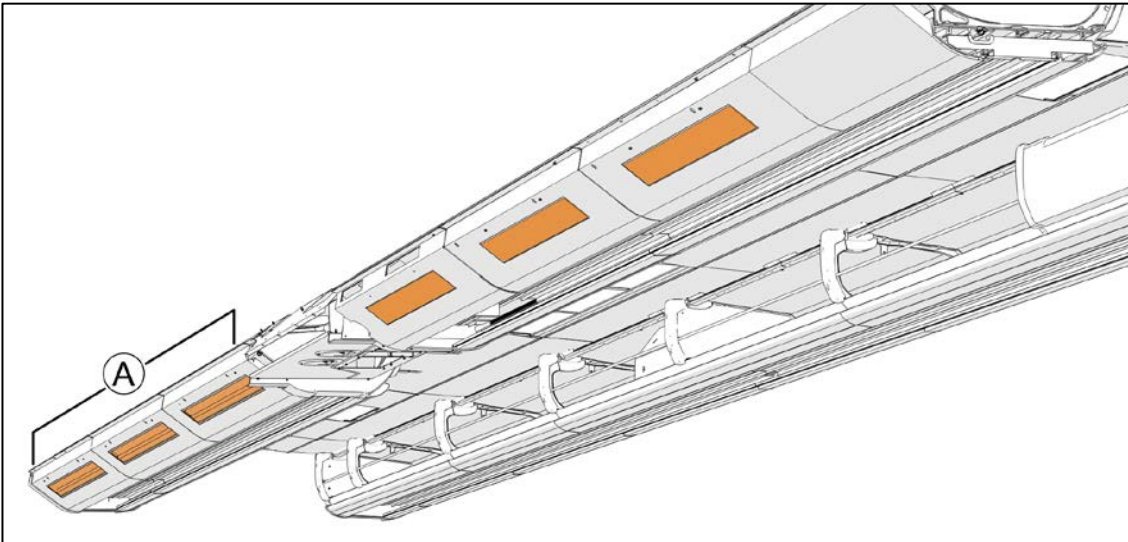
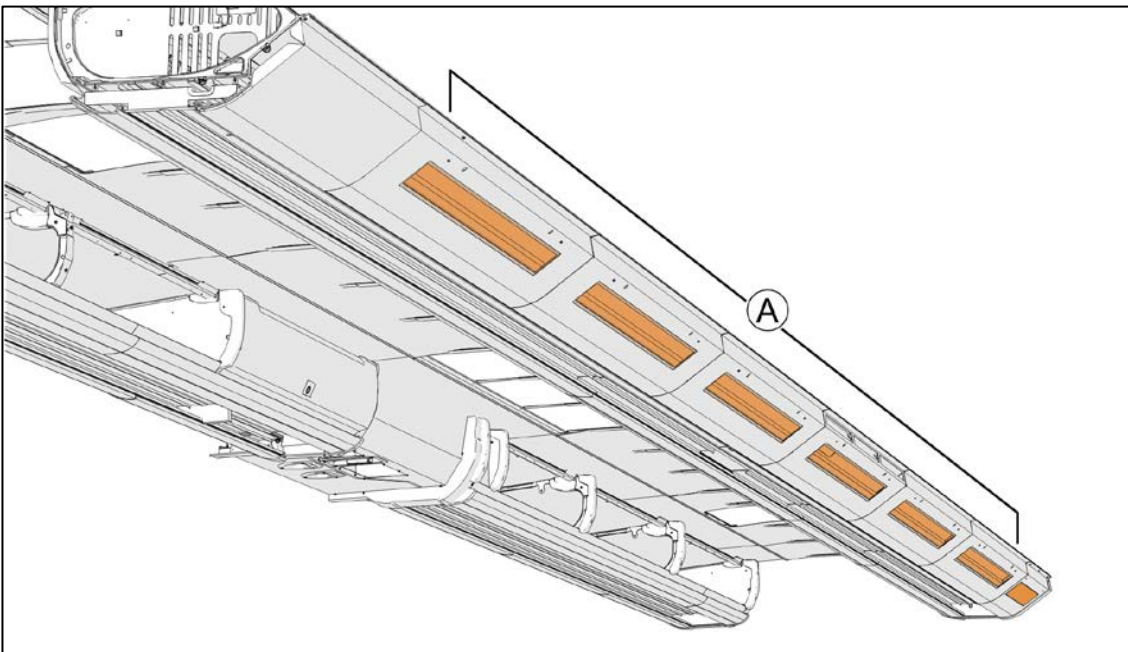

Figure 1: Curb side lenses. "A" 4ft lenses: follow instructions
Figure 2: road side lenses. Longer lenses are "A". Three(3) Z-clips required
3. Refer to Figure 1 and Figure 2. If lens is longer type "A" it needs to have the "U" shape edge on the bottom of the opening and the rolled edge at the top
9. Refer to Figure 1 and Figure 2. Type "A" lenses are longer and need an additional clip along the outer edge (window side) at mid length (24" from front edge of lens)